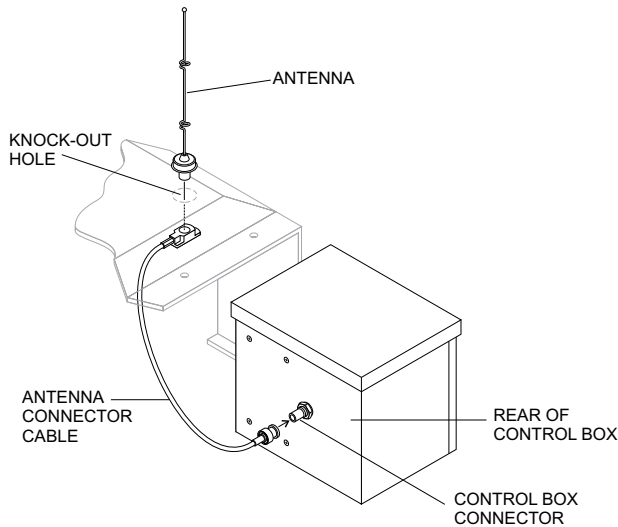

Figure 37. Antenna Installation
- On the top of the unit, to the right of the control box (Figure 37), hammer out the knock-out hole and install the remote antenna.
- Connect the antenna cable to the connector on the rear (Figure 37) of the control box.